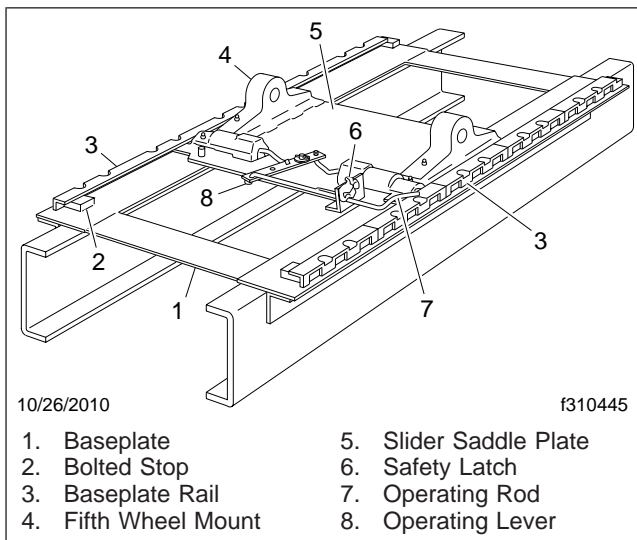

Fig. 10.13, Sliding Fifth Wheel Manual Release, (Holland Simplex)
- 2.2 **Holland:** Pull the operating rod out. Make sure both side plungers have released. See **Fig. 10.13**.